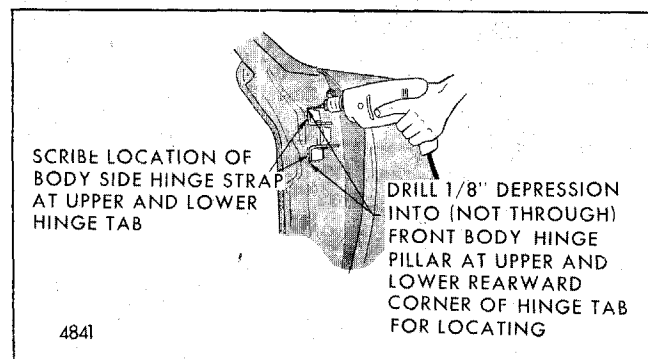

Fig. 5-103-Body Side Door Hinge Strap Removal - "H" Styles
2. Scribe hinge location at upper and lower hinge tab and drill indentation into (not through) hinge pillar facing with a 1/8" drill bit at the corners of the upper and lower hinge tabs as shown in Figure 5-103. Drilled depressions provide location for the replacement hinge and should not be lost during torching operation.